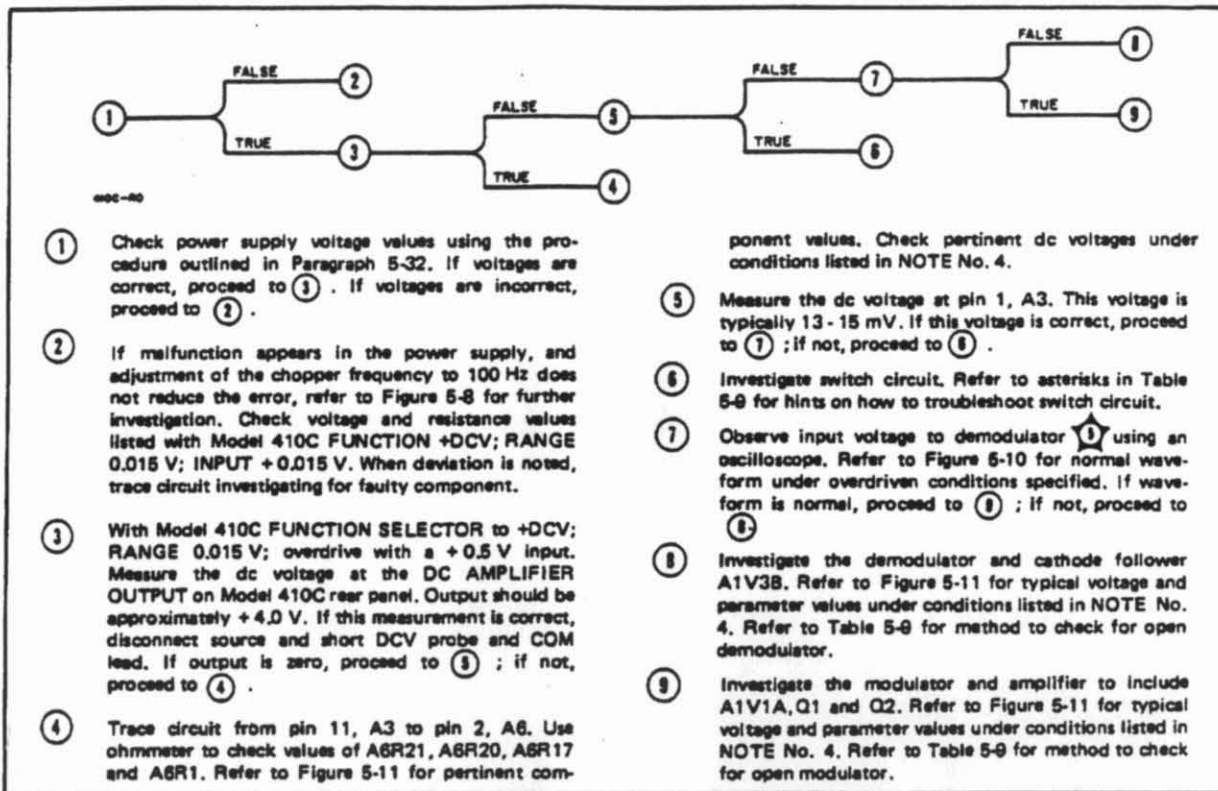

Figure 5-7. Troubleshooting Procedures.
5-45. Figure 5-7 contains procedures which may be used as a guide in isolating malfunctions.
*Refer to , Figure 5-7.
5-46. The checks outlined in Figure 5-7 are not designed to measure all circuit parameters, rather only to localize the malfunction. Therefore, it is quite possible that additional measurements will be required to completely isolate the problem. Amplifier gain may also vary slightly between instruments; therefore it should not be necessary to precisely duplicate waveforms or values described.